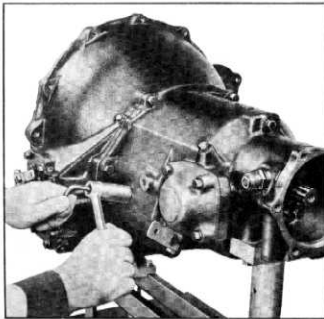

Fig. 202—Adjusting Low Servo
- Tighten low servo adjusting screw, using tool, J-4277, down solid and back off four complete turns and tighten lock nut securely (fig. 202). Replace adjusting screw cap.